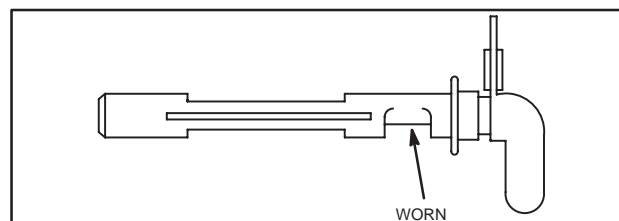

Fig. 15 – Check Throttle Shaft
2. Inspect throttle shaft and choke shaft for wear, Fig. 15.